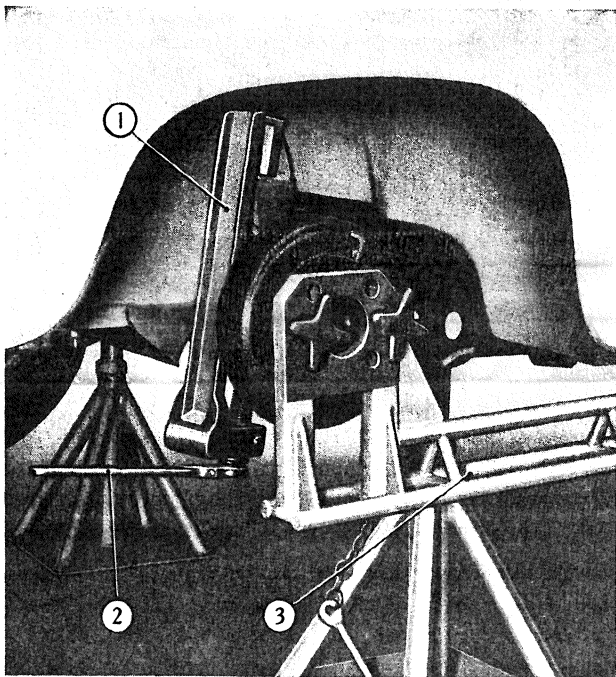

Fig. 318 - Installation of the fixtures required for rear wheel toe-in checks.
- b) Install the set of fixture A. 66052 for spring compression and wheel retainment in vertical position (fig. 318).
- d) Secure gauge C. 696 to wheel shaft (fig. 318) by the two clamp screws (for the Multipla), replace front bracket of gauge C. 696 with bracket C. 696/2).